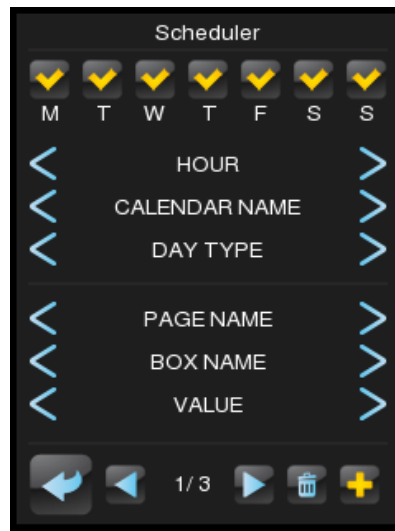

Figure 132 Scheduler
- **Right Button:** opens up the macro configuration panel4 (Figure 132).